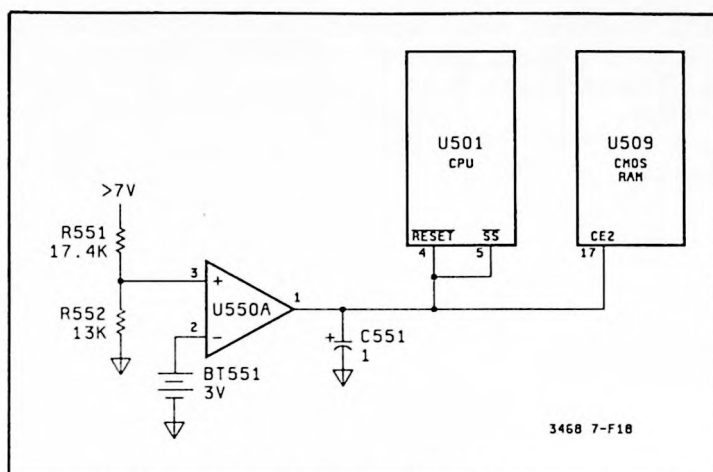

Figure 7-F-18. Power-On Circuitry
a. **Power-On Circuitry.** Refer to Figure 7-F-18 or Schematic 3. The Power-On Circuitry resets the CPU when the 3468A/B is turned on and when the >7V power supply (raw supply for the +5V supply) is low. The step by step operation is as follows:
b. **Reset Circuitry.** Refer to Figure 7-F-19 or Schematic 3. The Reset Circuitry is used to reset the CPU when the TEST/RESET button is pressed or if the CPU inadvertently goes to a non-operational state. The step by step operation is as follows: